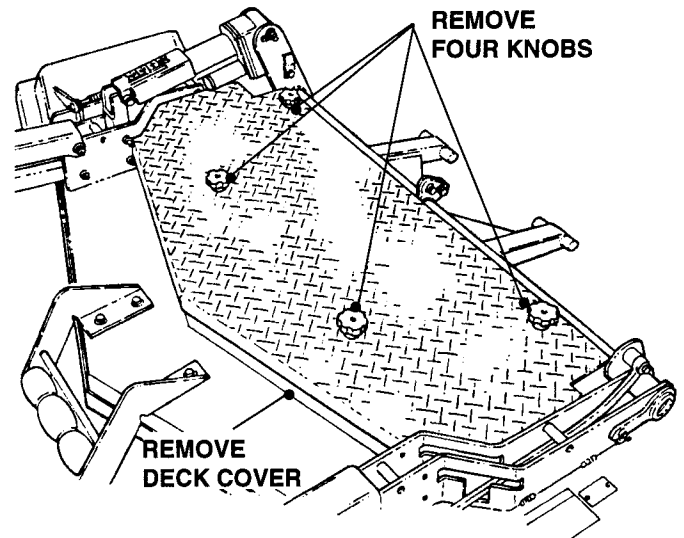

FIGURE 8.4
3. Remove four (4) Knobs that secure the Deck Cover. See Figure 8.4.